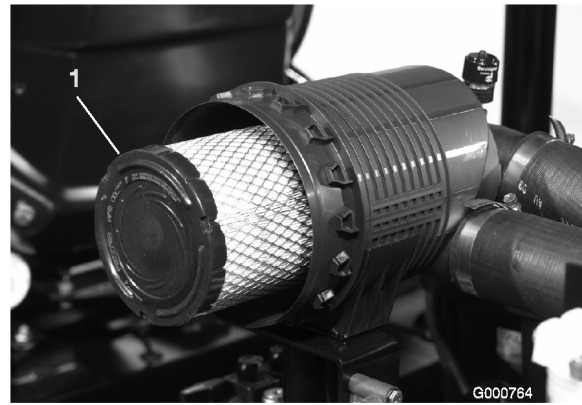

Figure 40
3. Remove and replace the primary filter (Figure 40).